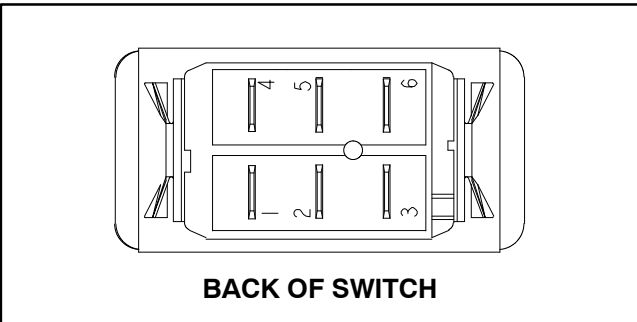

Figure 42
4. The air conditioning switch terminals are identified in Figure 42 and the switch circuits are shown in Figure 43. With the use of a multimeter (ohms setting), the switch functions may be tested to determine whether continuity exists between the various terminals for each switch position. Verify continuity between switch terminals.